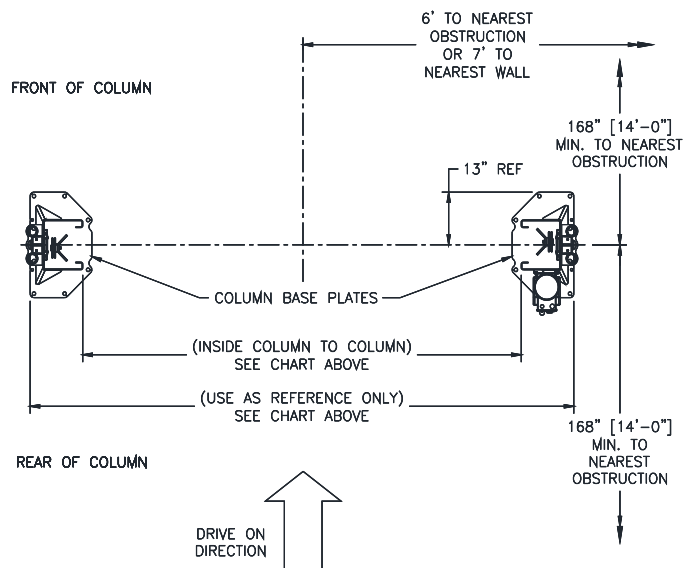

Fig. 1b - Service Bay Layout
- 5) Layout the service bay according to the architect's plans or owner's instructions (**see Fig. 1b**). **Failure to install in this orientation can result in personal and property damage.** Be certain that the proper conditions exist, see pg 3.